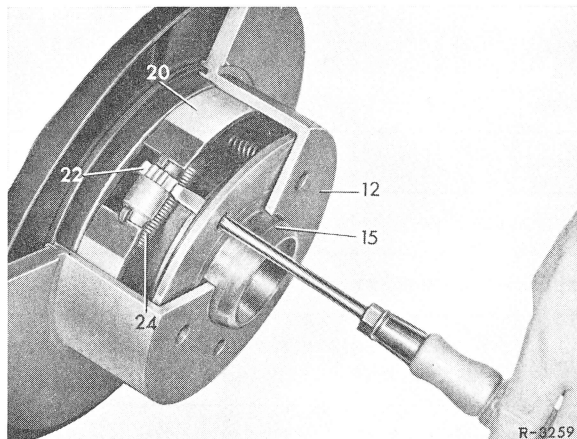
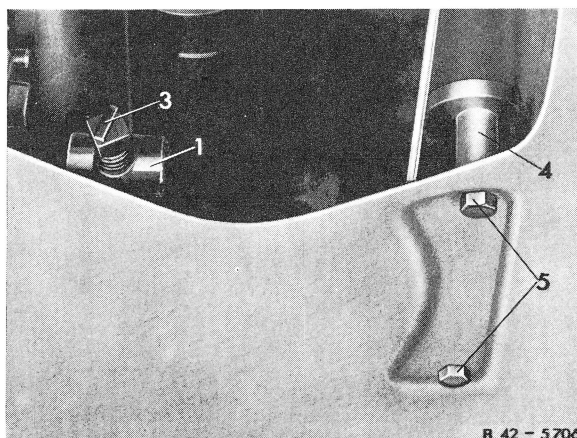

Fig. 3
Fig. 5
- 5 Loosen adjusting screw (3) on adjusting bracket completely (Fig. 3).
- 6 Adjust brake shoes of parking brake (refer to item 1–4).
Caution! The lug on the adjusting screw (3) should always be vertical (Fig. 5).